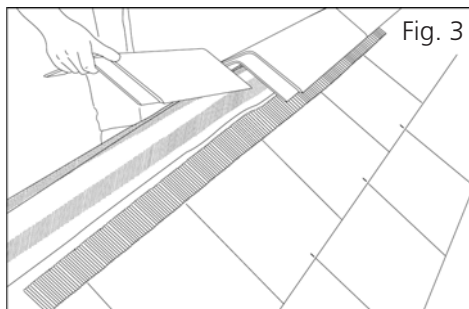

Fig. 3
4. Fix ridges as normal along the length of ridge roll. (Fig 3)